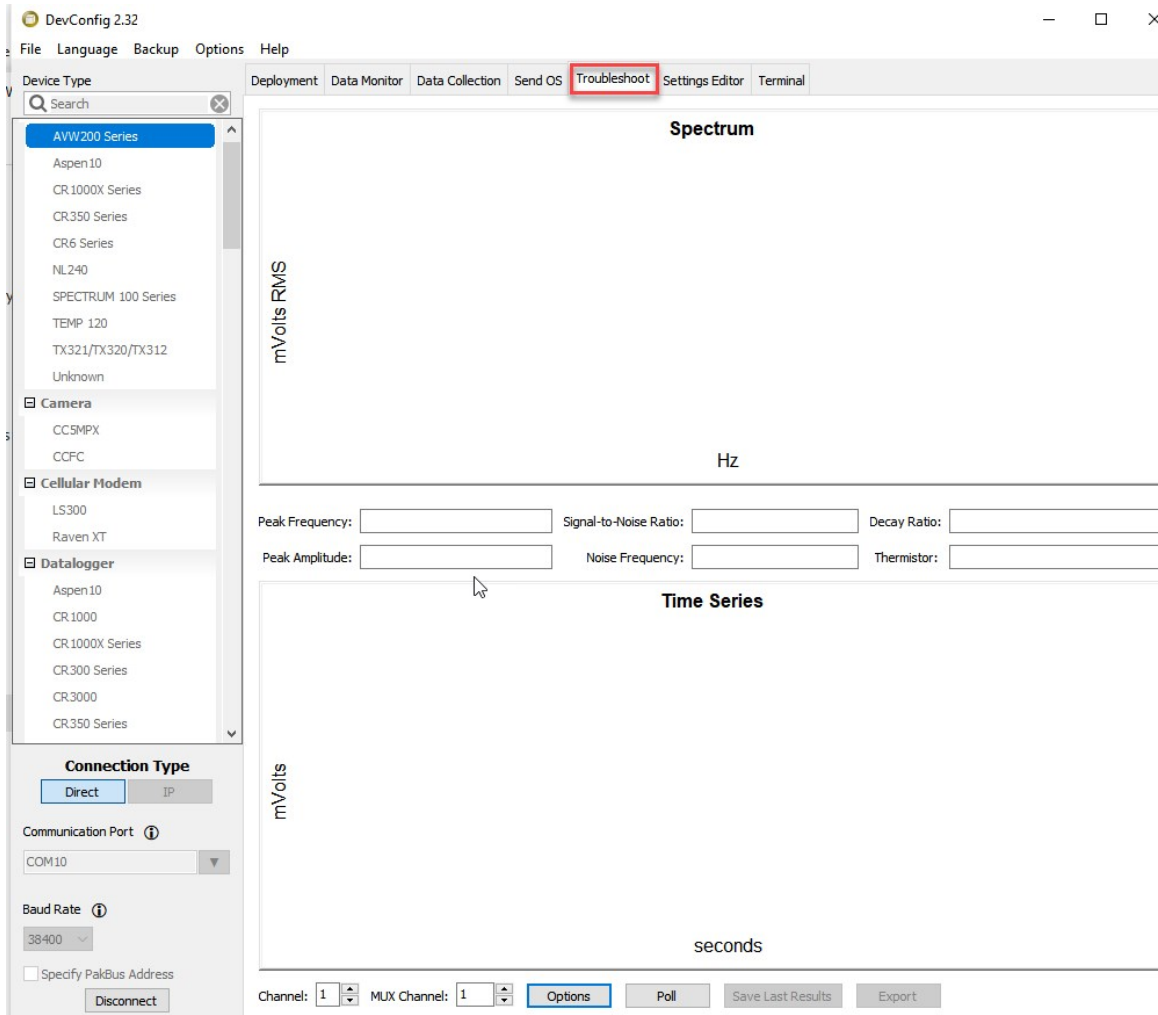

Figure 8-7. Opening page of the Troubleshoot tool
2. Click the **Troubleshoot** tab on the *Device Configuration Utility* opening window (Figure 8-7 [p. 40]).